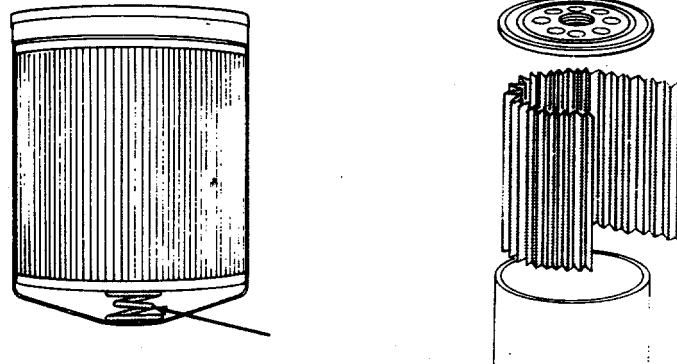

FIGURE 2-3. Oil Filter/Cooler.
- a. Cut the top off the oil filter, remove the filter element, and inspect the filter element for evidence of moisture or metal particles (FIGURE 2-3).